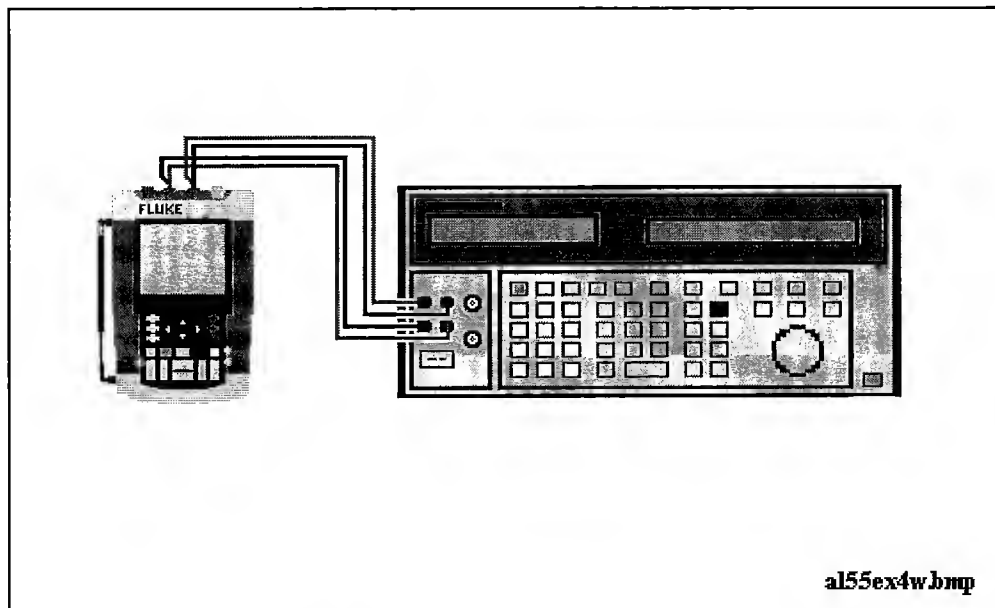

Figure 4-17. Test Meter Tool Input to 5500A Normal Output 4-Wire
1. Connect the test tool to the 5500A as shown in Figure 4-17.